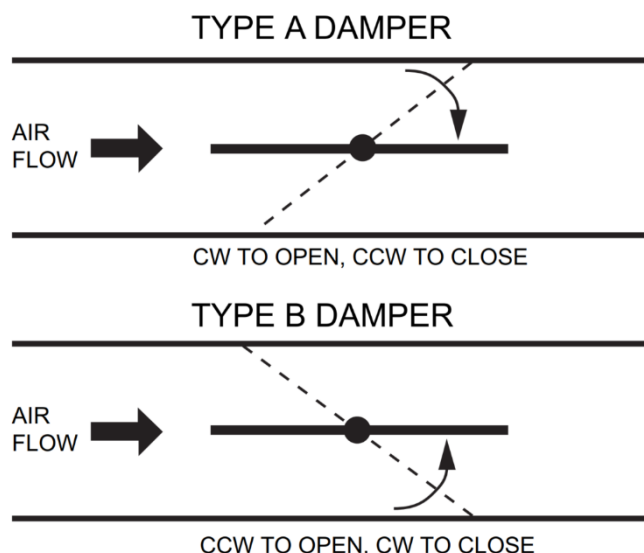
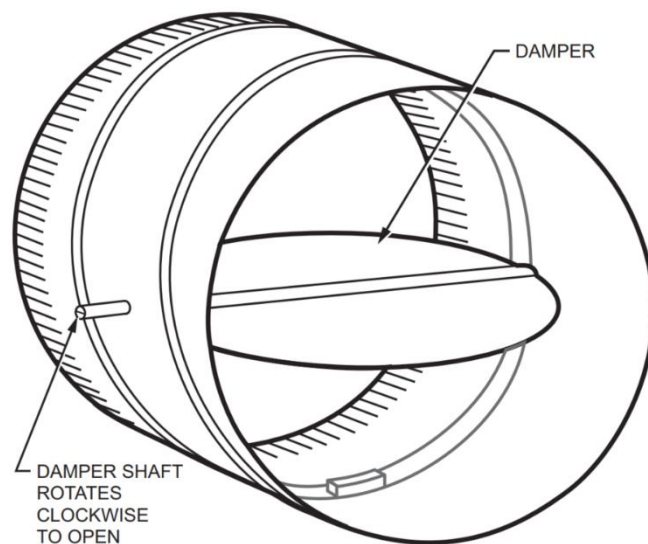

Fig. 5. Determining the rotation direction (CW or CCW)
Fig. 6. Damper with 90 degree CW rotation to open
3. Determine the direction in which the damper shaft rotates to open the damper (CW or CCW) (see Fig. 5). Typically, there is an etched line on the end of the damper shaft that indicates the position of the damper. In Fig. 6, the indicator shows the damper open in a CW direction.
4. Determine the damper full opening angle (45, 60, or 90 degrees). In Fig. 6, the damper is open to its fully open position of 90 degrees.